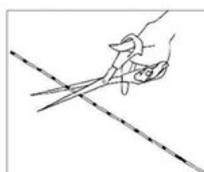

Figure 14
4. Cut the catheter infusion segment to the desired length (See figure 14). See also the Catheter instructions.